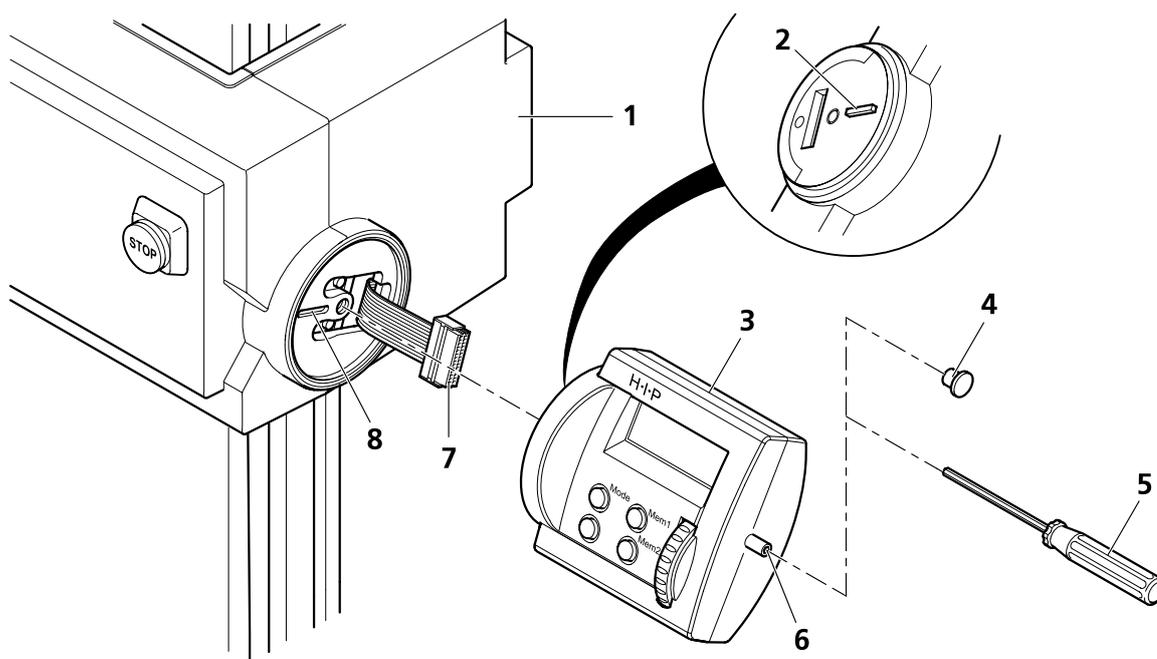

Fig. 26 Installing the HIP control unit
Install the HIP (Fig. 26/3) to the microscope body (zoom function) or to the motorized focusing drive (focus function) by following this procedure:
- Remove the cover (right) from the microscope body (only on SteREO Discovery.V12/V20) or the focusing drive (Fig. 26/1) and the cover cap from the HIP (Fig. 26/4).
- Slightly pull out the connecting cable (Fig. 26/7) without applying force and connect it to the corresponding connector on the HIP.
- Push the cable fully back into the casing without folding it; carefully attach the HIP so that the nose (Fig. 26/2) on the HIP engages with the provided groove (Fig. 26/8).
- Screw in the Allen screw (SW 3) (Fig. 26/6) with the ball-headed screwdriver (Fig. 26/5) as far as it will go.
- Re-attach the cover cap (Fig. 26/4) to the HIP.